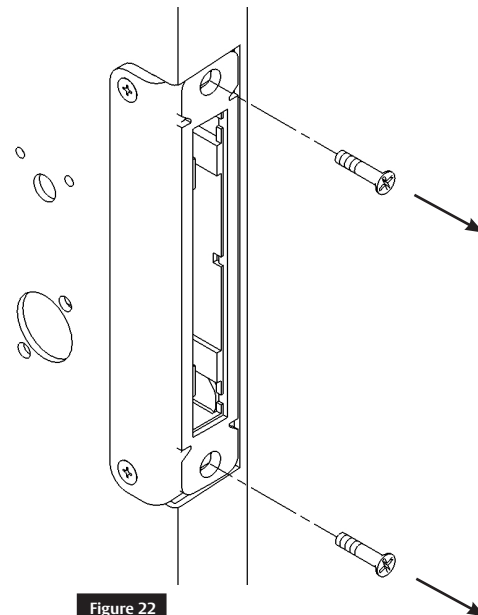

Figure 22
1. Remove two (2) #12-24 x1" flat head mounting screws. (Figure 22)